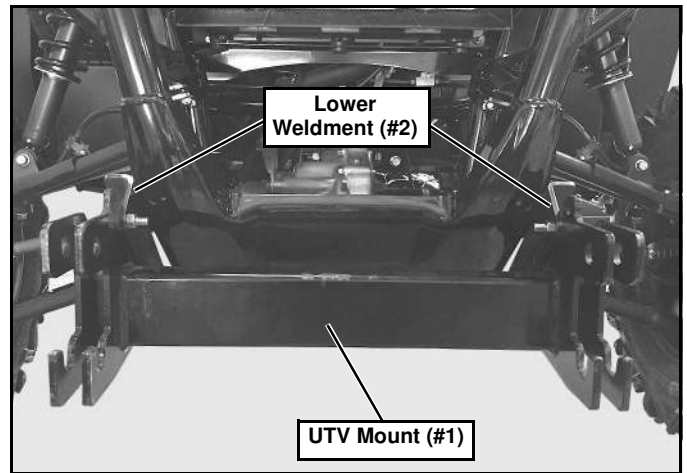

Figure 5
10. Position the UTV Mount (#1) on the machine. The UTV Mount (#1) goes to the outside of the Lower Weldment (#2). (See Figure 5.)